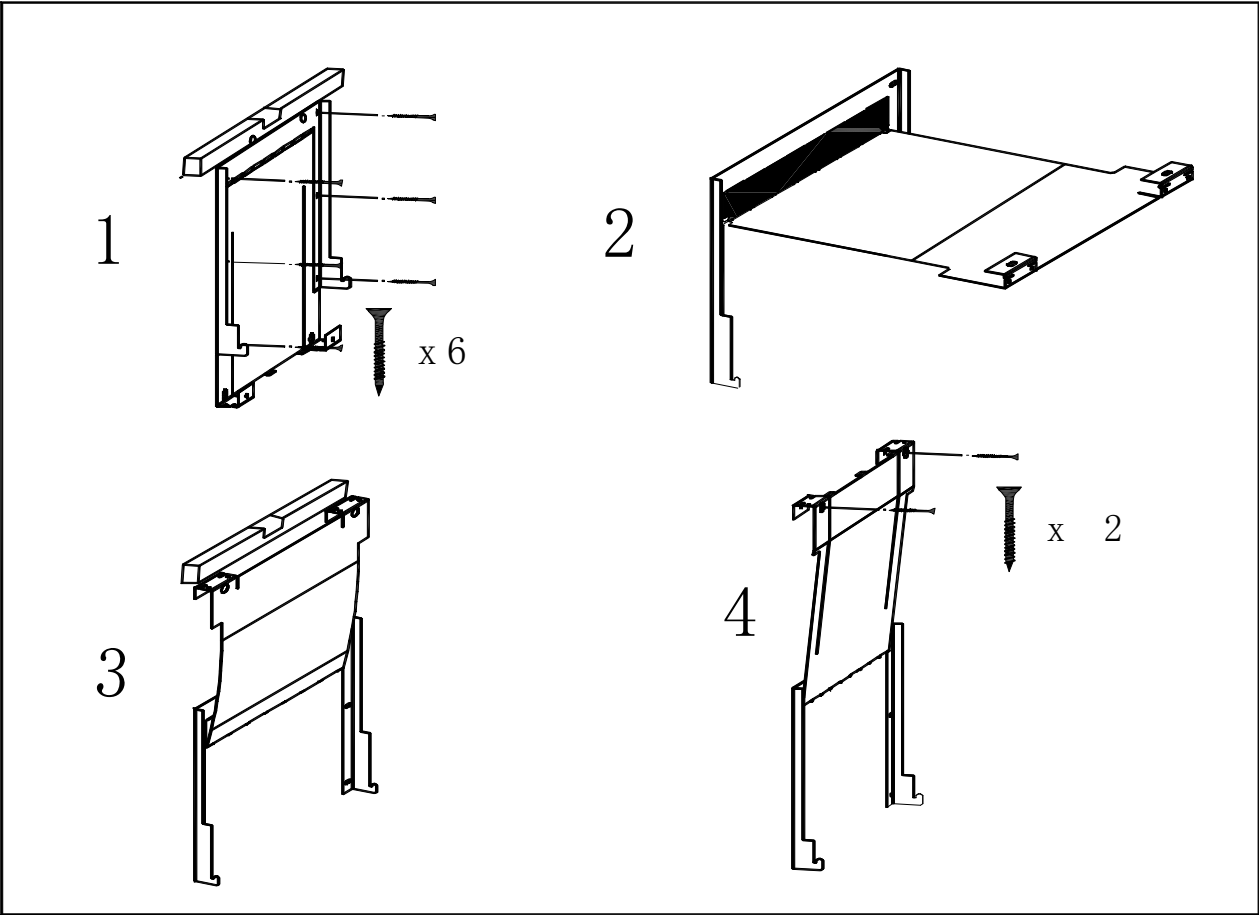

Figure4.Installing the wall mount
Installing the Heater See figures 4, 5, and 6.
2. Install the wall mount horizontally to the wall using suitable fasteners. Make sure that the heater is supported not only by the wall panel (figure 4). Take note of the floor's slope. Using the wall mount ensures the 80 mm safety distance.